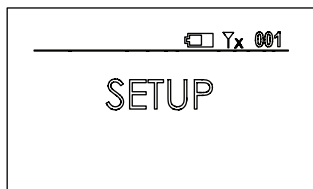

Fig. 3
1. Starting from the connecting screen (Fig. 2) press and hold the power button until "setup" is shown on the screen (Fig. 3). Release the button.